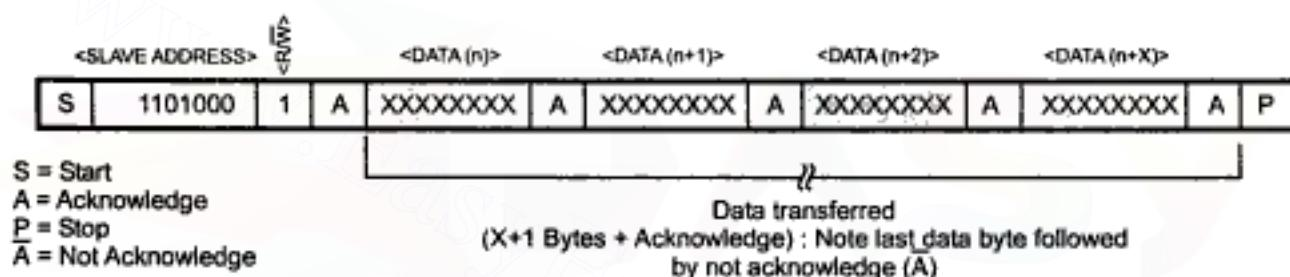

Fig. 15.16 Data read - slave transmitter mode
2. Slave transmitter mode (DS1307 read mode) : The first byte is received and handled as in the slave receiver mode. However, in this mode, the direction bit will indicate that the transfer direction is reversed. Serial data is transmitted on SDA by the DS1307 while the serial clock is input on SCL. START and STOP conditions are recognized as the beginning and end of a serial transfer as shown in Fig. 15.16. The address byte is the first byte received after the start condition is generated by the master. The address byte contains the 7-bit DS1307 address, which is 1101000, followed by the direction bit (R/active-low W), which for a read is a 1. After receiving and decoding the address byte, the DS1307 inputs an acknowledge on the SDA line. The DS1307 then begins to transmit data starting with the register address pointed to by the register pointer. If the register pointer is not written to before the initiation of a read mode, the first address that is read is the last one stored in the register pointer. The DS1307 must be sent a Not-Acknowledge bit by the master to terminate a read.